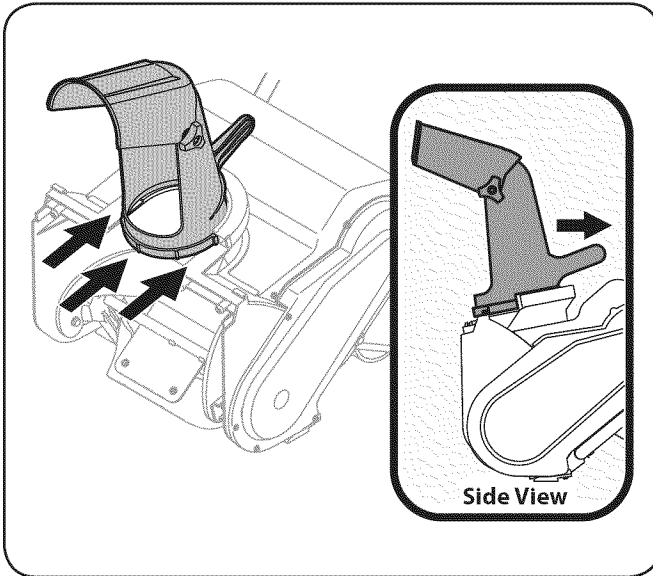

Figure 3-8
5. Install the chute in the auger housing with the handle facing towards the rear of the snow thrower. See Fig. 3-8.